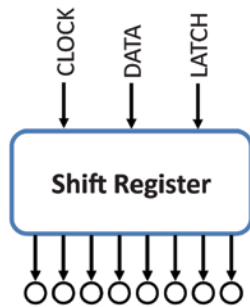

Figure 9-1: Shift register input/output diagram
consider the diagram in Figure 9-1, which shows the inputs and outputs to a serial-to-parallel shift register. Variations to this diagram throughout the chapter illustrate how different inputs affect the outputs.
- pins Q_A through Q_H represent the eight parallel outputs from the shift register (connected to the circles shown in Figure 9-1).
- The SER pin is represented by the DATA input in Figure 9-1. This is the pin where you will feed in eight sequential binary bits to set the values of the parallel outputs.
- The SRCLK pin is represented by the CLOCK pin in Figure 9-1. Every time this pin goes high, the values in the register shift by 1 bit. It will be pulsed eight times to pull in all the data that you are sending on the data pin.
- The RCLK pin is represented by the LATCH pin in Figure 9-1. Also known as the *register clock pin*, the latch pin is used to “commit” your recently shifted serial values to the parallel outputs all at once. This pin allows you to sequentially shift data into the chip and have all the values show up on the parallel outputs at the same time.